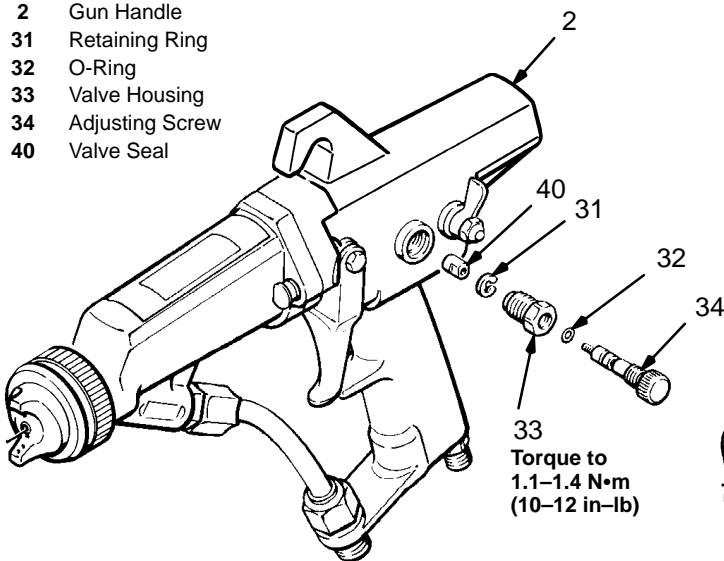

Fig 20
1. Place a wrench on the flats of the valve housing (33) and remove it from the handle (2). See Fig 20.
2. Remove the retaining ring (31).
3. Rotate the air adjusting screw (34) *counterclockwise* until it is disengaged from the valve housing threads. Pull the adjusting screw (34) out of the valve housing (33).
4. Clean all the parts and inspect them for wear or damage. If replacing the seal (40), unscrew it *clockwise* and remove it from the adjusting screw.
5. Apply medium grade thread sealant to the small threads on the end of the adjusting screw (34) and install a new seal (left hand thread).
6. When reassembling the fan air valve, lubricate the o-ring (32) and the adjusting screw threads with petroleum jelly.
7. After the retaining ring (31) is installed on the adjusting screw (34), back the adjusting screw out of the valve housing (33) until it bottoms out against the retaining ring (31).
8. Apply PTFE paste to the threads of the valve housing (33) and install it in the handle (2). Torque the housing (33) to 1.1–1.4 N•m (10–12 in-lb).